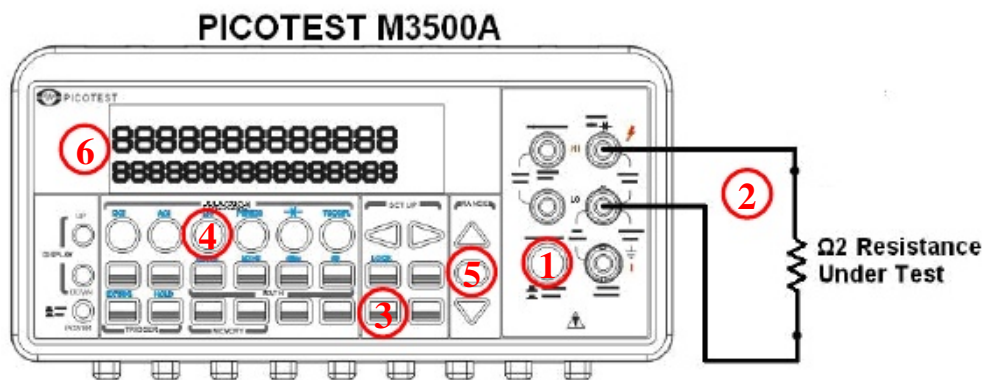
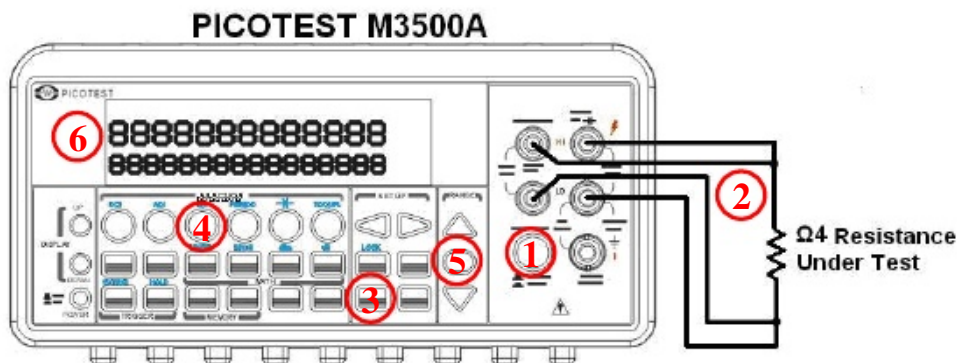
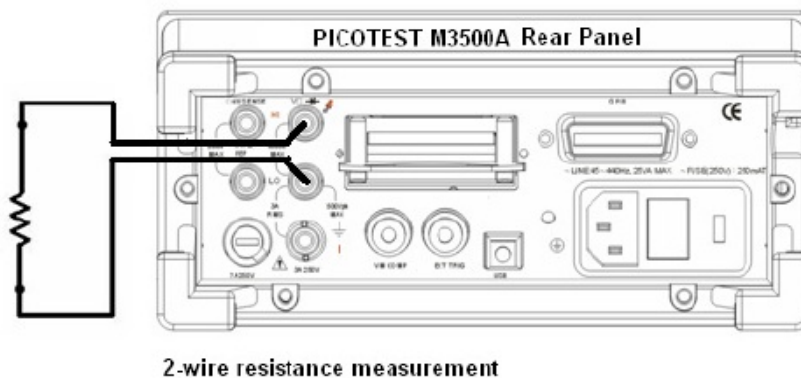

Figure 3-6
Figure 3-7
Figure 3-8
The ranges for resistance measurement are 100 Ω , 1K Ω , 10k Ω , 100k Ω , 1M Ω , 10M Ω , and 100M Ω , with a sensitivity of 100 $\mu\Omega$ (on 100 Ω range.) There are two modes for measuring the resistance: 2-wire mode as shown in **Figure 3-6** and 4-wire mode as shown in **Figure 3-7**. With 4-wire mode, the test current is measured from the test resistance through one pair of the test leads, and the test voltage across the resistance under test is measured from another set of the test leads. As a result, the 4-wire mode is more accurate for low resistance measurements. The trade off is the longer settling time for 4-wire mode. **Figure 3-8** and **3-9** show the input terminal connections on the rear panel for 2-wire mode and 4-wire mode respectively.
- ① Selects input signal connections on front or rear panel.
- ② Connect the test leads to the terminals as shown in **Figure 3-6** (2-wire) or **Figure 3-7** (4-wire).
- ③ Set RESOLUTION (Refer to 4.1.3) or skip this step if default is to be used.
- ④ Press $\Omega 2$ button for 2-wire measurement or SHIFT + $\Omega 2$ buttons for 4-wire measurement.
- ⑤ Select the auto-range function by pressing AUTO button on the front panel or use \triangle and ∇ buttons to select the desired range.
- ⑥ Connect test leads to your source signal and observe the reading shown on the display. If the input signal is greater than the allowed range, an overflow message "OVLD" will be displayed.
※ Note: The rear terminal panel also can be used via the same procedures like the front panel as shown in **Figures 3-8** and **3-9**.